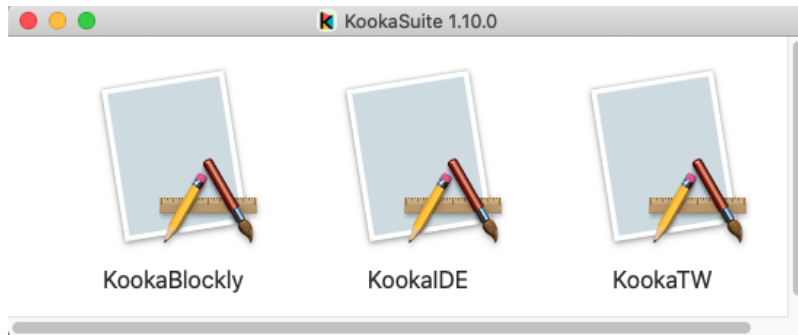

Fig. 1.10: The contents of the MacOS **KookaSuite** download package.
1. Double-click on the downloaded `KookaSuite-<version>-macOS.dmg` file to open it. You will see it contains the three **KookaSuite** apps, as in Fig. 1.10.